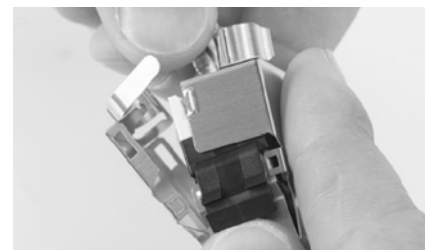

Figure 23
11. Pinch the top and bottom of the shield while simultaneously pinching the sides of the shield. See Figure 23.